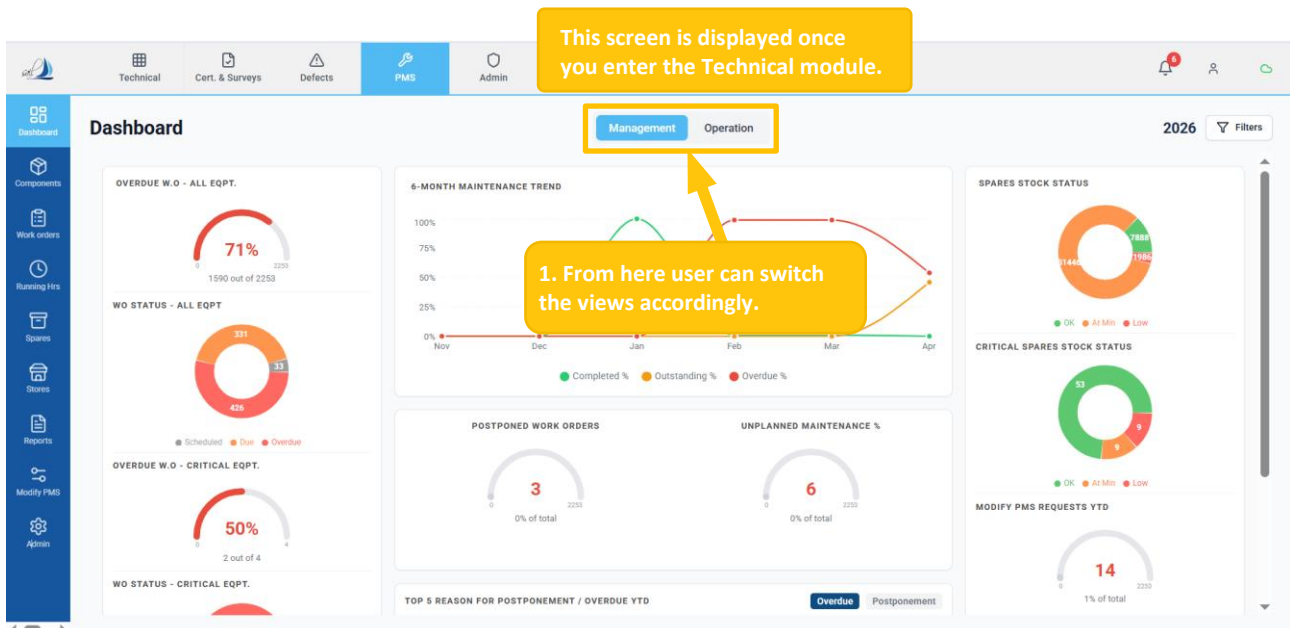

Figure 3
- Upon entering the 'PMS' sub-sub-module, the system automatically opens the 'Dashboard' sub-sub-module with 'Management' selected as the default option. (Ref Figure 3)
- Management view:** The Management Dashboard provides a real-time overview of Work Orders, Critical Equipment, Spares, and maintenance activities. It also highlights trends, unplanned work, postponements, and overdue reasons for better monitoring and control. (Ref Figure 3)
- Operation view:** Day-to-day operational metrics: work order planner, outstanding jobs, and Critical Spares status. Designed for HOD and Vessel. (Ref Figure 3)